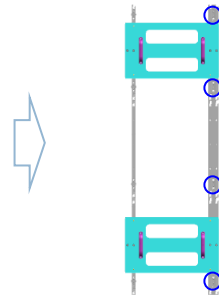

Fig3. Fasten the Screw
- ※ Third, fasten the ② Bracket Middle using Screws. [Fig.3]